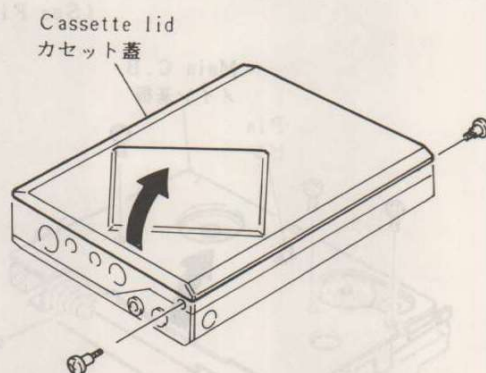

Fig. 4
- 2) Remove 2 hinge screws and take out the cassette lid in the direction of the arrow (See Figure 4)